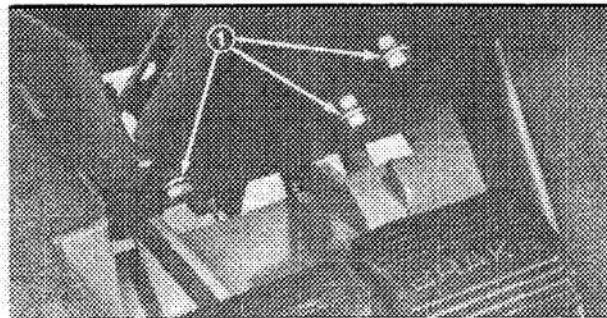

Figure 35
6. Remove capscrews and lockwashers retaining steering gear against steering tower (Fig. 35). Slide steering gear down off steering tube and away from the tower.
2. Insert input shaft of steering gear into steering tube and hold gear against steering tower. Secure gear in place with three capscrews and lockwashers (Fig. 35). Lock steering gear and tube together by tightening steering clamp locknut and carriage bolt.